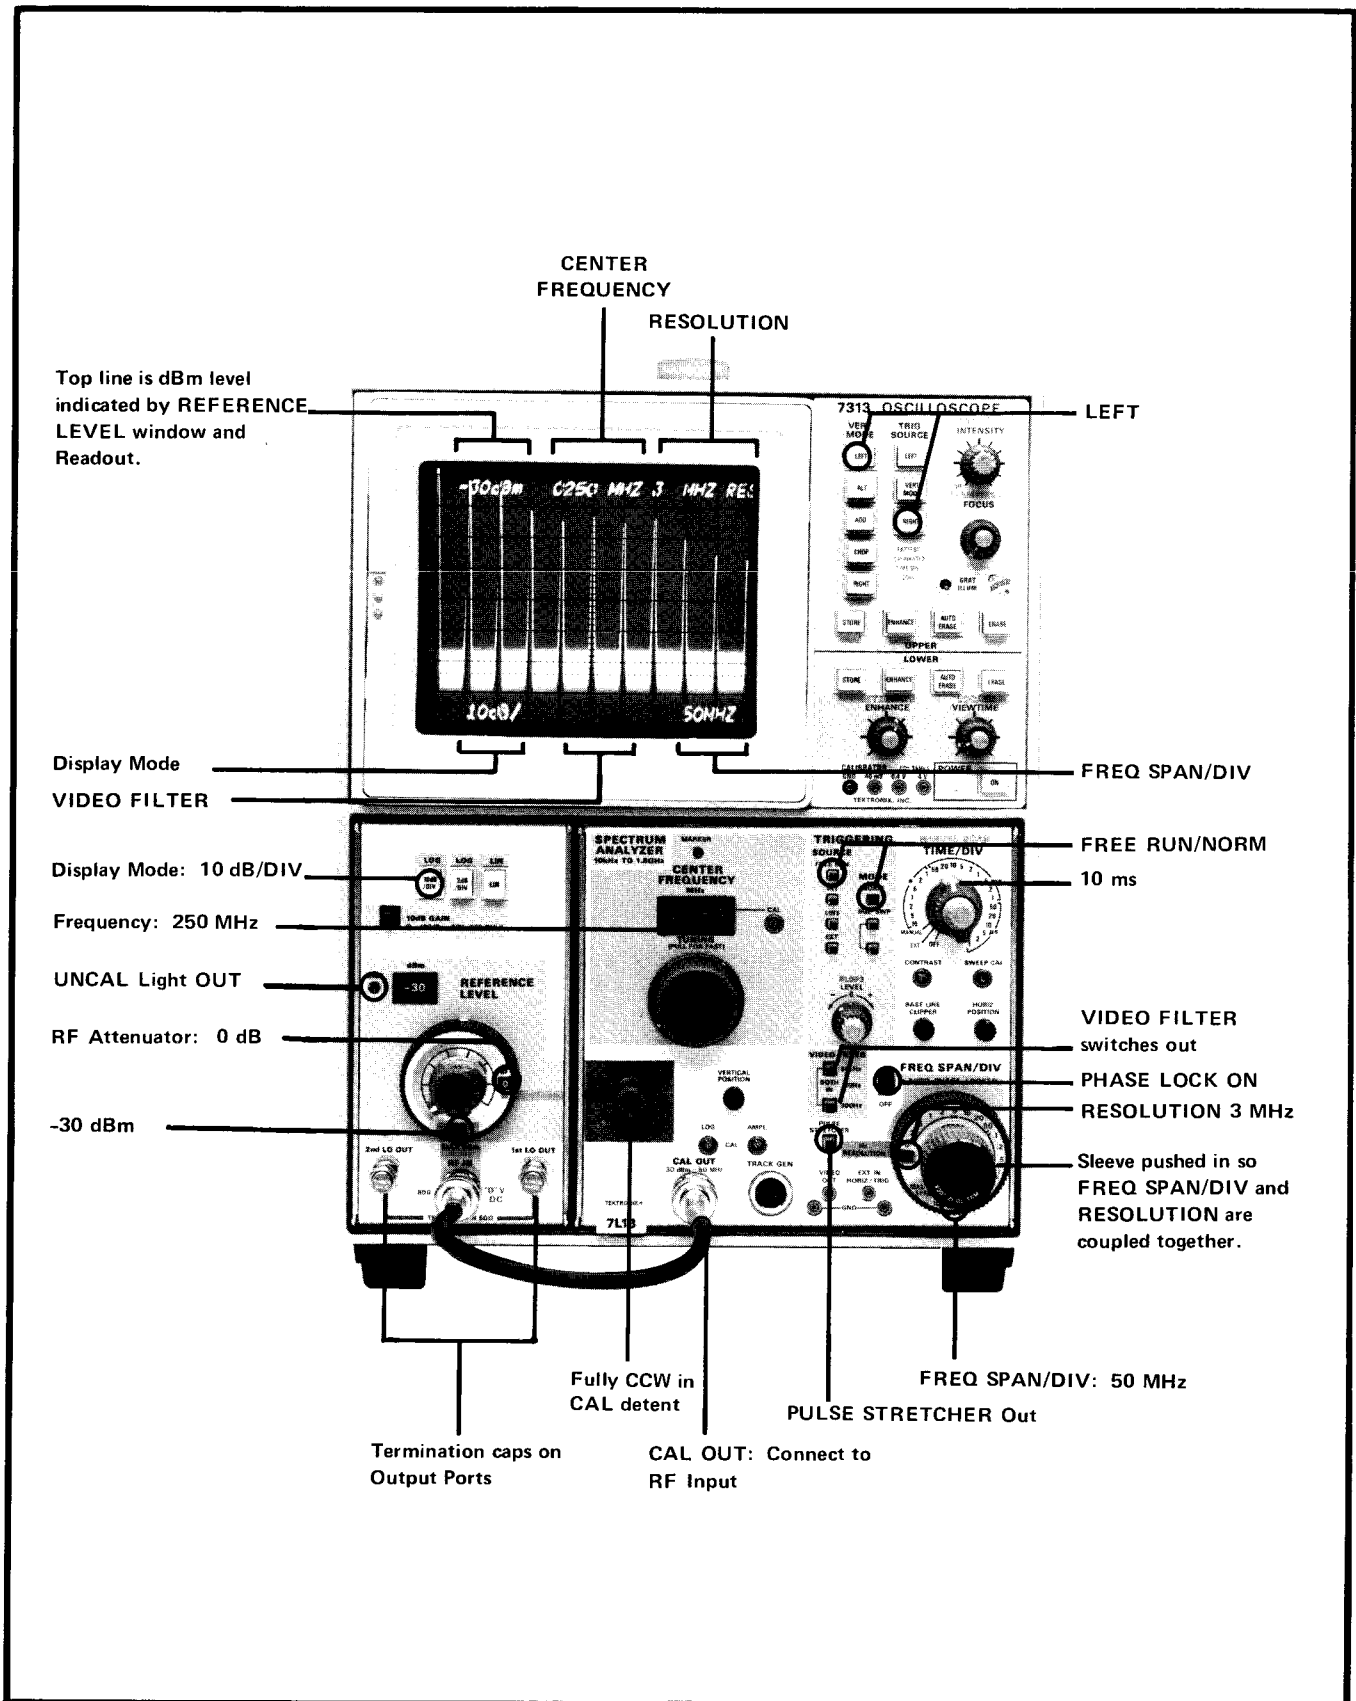

Fig. 2-2. Front panel selector positions and signal connections for initial operational check and front panel calibration.
c. Set the front panel controls as illustrated in Fig. 2-2 and connect the CAL OUT signal through a short coaxial cable to the RF INPUT.
f. Depress the 10 dB/DIV (LOG) display button. Display should now resemble that shown in Fig. 2-2.